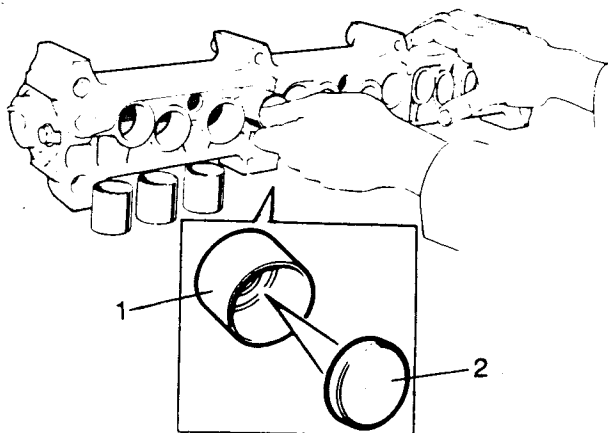

Fig B4.44
- (3) Refer to Fig B4.44. Lay the carrier on its side, lubricate the followers (1) and fit them into their respective housings. Smear the shims (2) with grease and replace them.
- (4) Check the bottom face of carrier for burrs or damage, as any protrusions will affect valve clearance. Also check that the carrier bolt thread and the respective threads in the cylinder head are free of foreign material.
- (5) Position the carrier over the two locating dowels in the cylinder head, taking care not to dislodge the adjusting shims.